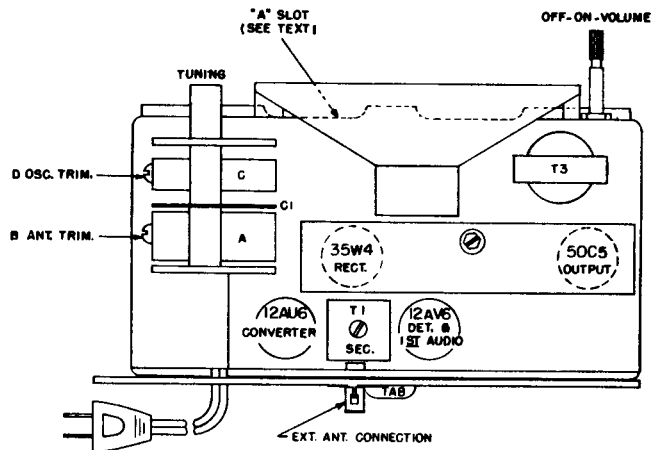

FIG 2 Chassis Layout
**REMOVING COVER** With the right hand, insert a screwdriver into the slot marked "A" (see Fig 2). With the left hand, grasp the chassis so that the thumb is on the speaker magnet and the second finger is pressing forward slightly on the tab (see Fig. 2). Then with a slight turn of the screwdriver the bottom cover will unlock from the chassis.